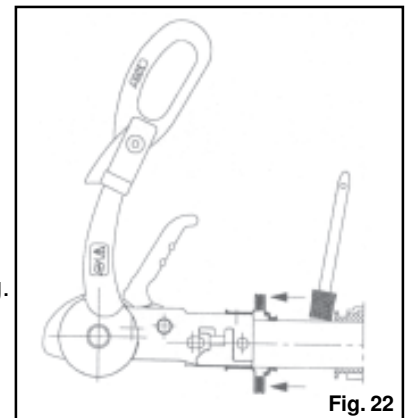

Fig. 22
- b) Lubricate the drawshaft sleeve via the grease nipples. In addition, push the gaiter forward and grease (DIN 51 825 KTA 3K) the exposed part of the shaft (Fig. 22).